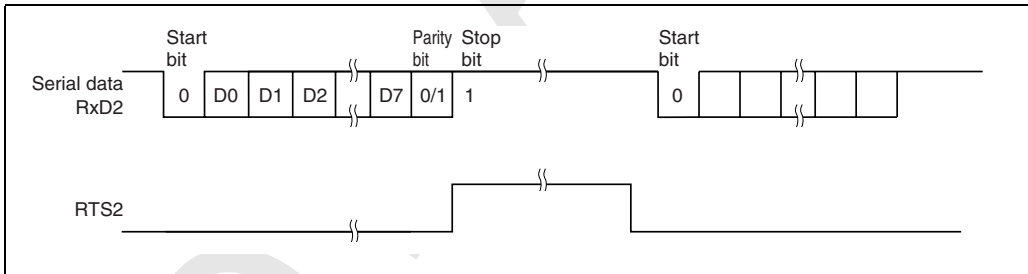

Figure 38: Example of operation using modem control (RTS2)
- When modem control is enabled, the RTS2 signal is output when SCIF.SCFRDR2 is empty. When RTS2 is 0, reception is possible. When RTS2 is 1, this indicates that SCIF.SCFRDR2 contains 15 or more bytes of data, and there is no free space, reception is not possible. Figure 38 shows an example of the operation when modem control is used.